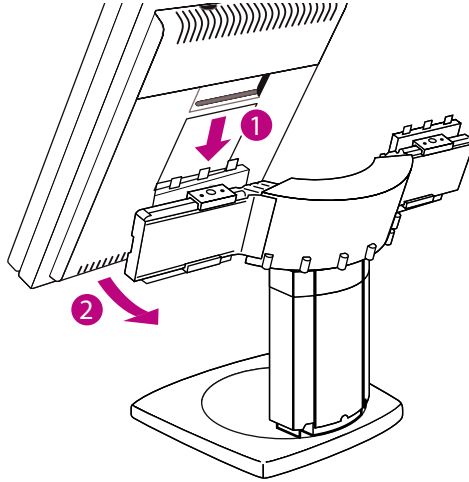

Figure 21:
5. Hook the top gaps in the rear of the panel over the top anchors of the bracket (figure 21 below).
6. Push the bottom of the panel firmly towards the stand so that the bottom anchors clip in the bottom gaps (figure 21 below).